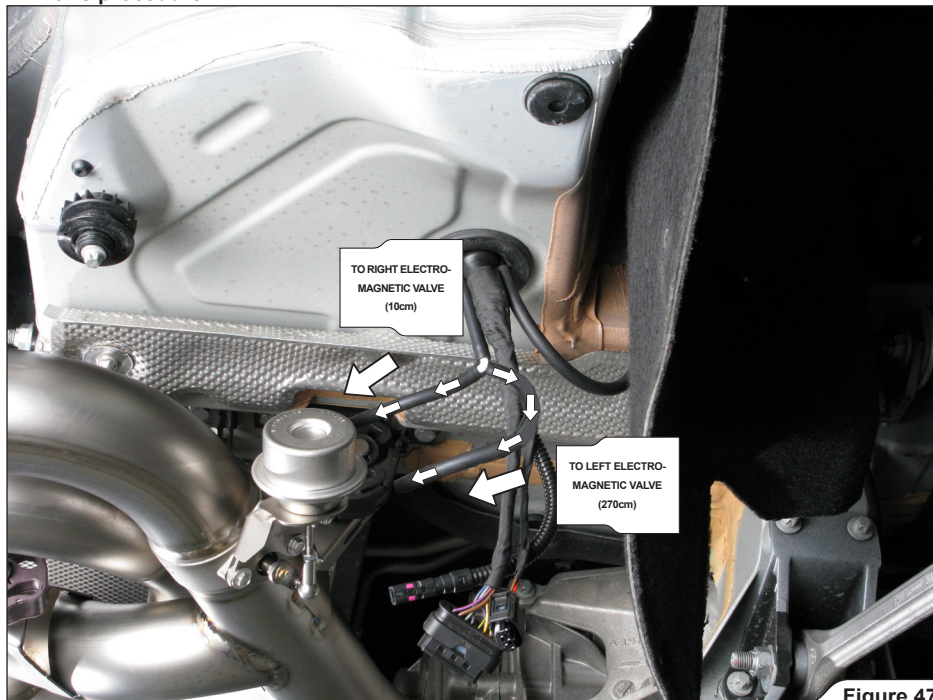

Figure 47
14. **For wireless kit installation:** link the vacuum hoses from Y piece distributor to the vacuum actuators as shown and loosen the market nut and partially remove heat shield for vacuum tube installation (**Figure 47, 48, 49, 50**).